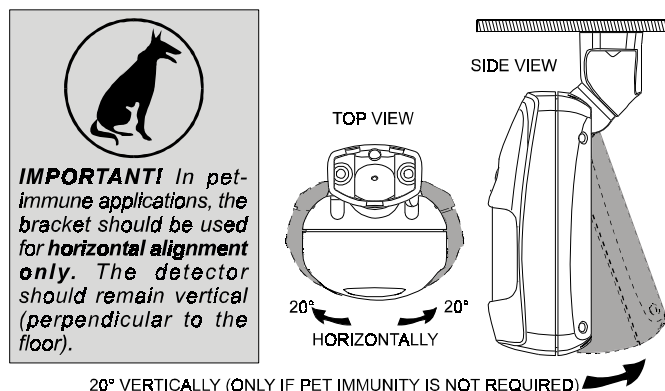

Figure 10. Tilt/Swivel Limits
- J. Swivel the detector horizontally to face the desired direction, but do not tilt it if this is a pet immune application (see Figure 10). However, if pets are not present it is advisable to tilt the detector as much as 20° down.